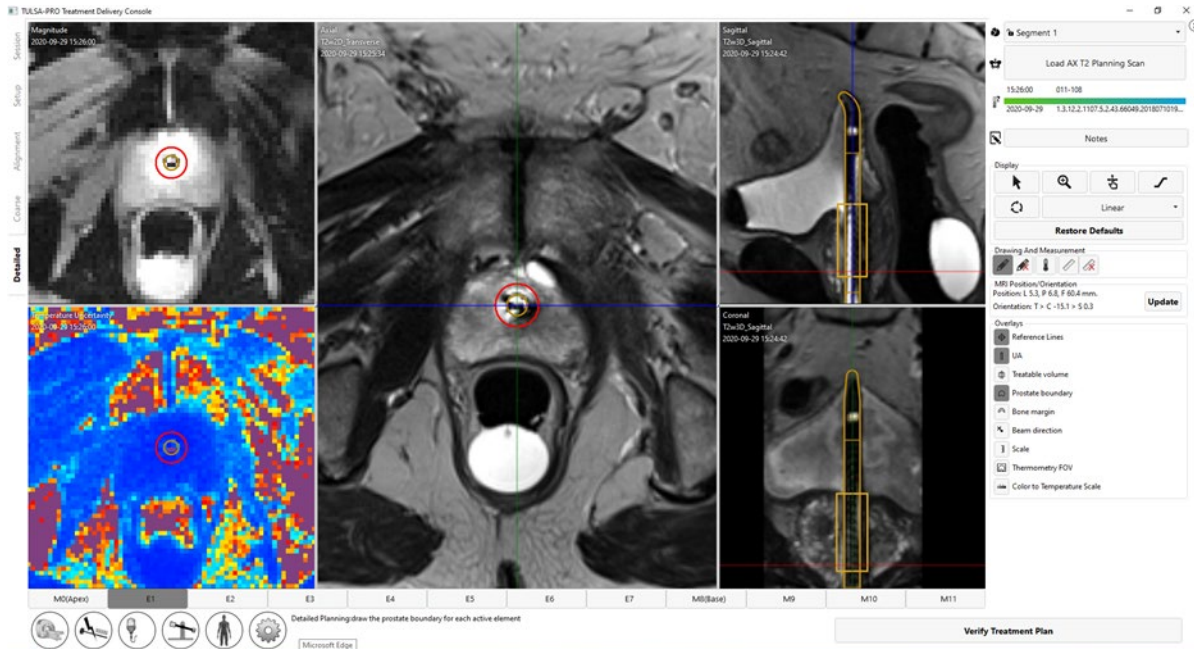

Figure 39. Detailed Planning workspace displaying AX T2, AX THERM magnitude, and AX THERM temperature uncertainty view.
9. Finally, Run AX THERM by clicking **Scan**. TDC will automatically receive the thermometry images. As the thermometry scans are received, the Magnitude and Temperature Uncertainty views will be displayed to facilitate treatment planning (Figure 39).